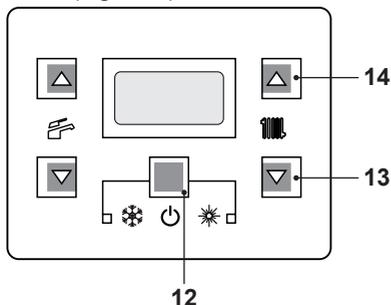
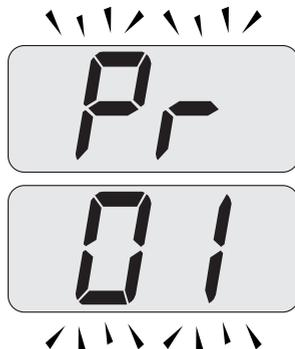
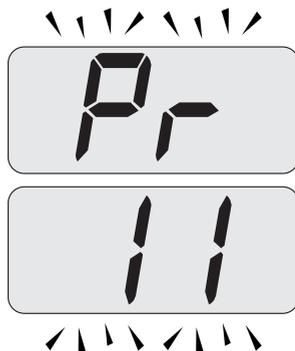
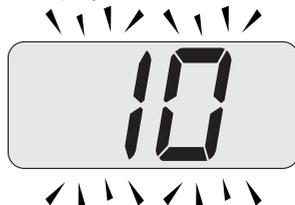

Fig. 8.14
Fig. 8.15
Fig. 8.16
Fig. 8.17
- Enter in "programming mode" by sequentially pressing keys 12 - 13 - 14 (Fig. 8.14) for 10 seconds at the same time until the letters **Pr** that alternate with code **01** are displayed on the LCD display, indicating that "parameter 01" (Fig. 8.15) has been activated.
- Scroll the various parameters using keys 13 or 14 until the letters **Pr** that alternate with code **11** are displayed on the LCD display, indicating that "parameter 11" (Fig. 8.16) has been activated.
- Press keys 12 and 14 (Fig. 8.14) at the same time until the value of parameter 11 (10=60 seconds) (Fig. 8.17) is displayed on the LCD display .
- By pressing key 12 (Fig. 8.14) confirmation of the inserted value is obtained.
- Press keys 12 and 13 (Fig. 8.14) at the same time to exit without changing the value (return to the parameters list Fig. 8.16).
- Press sequentially keys, 12 - 13 and then 14 (Fig. 8.14) and hold in for 10 seconds to exit the "programming mode".